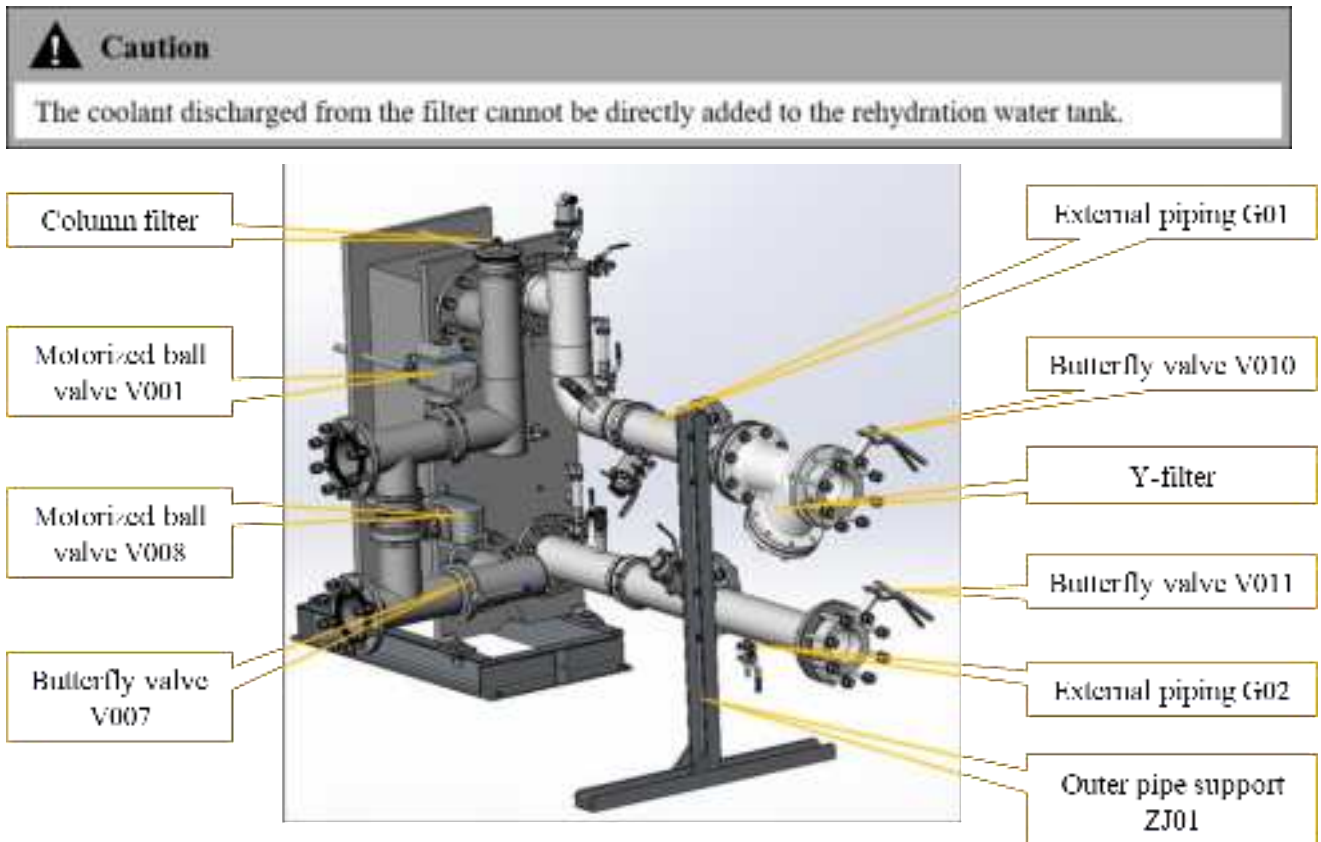

Figure 9.1 Location of butterfly valves and pipeline filters for pipeline maintenance.
- b. Referring to Figure 9.1, close the maintenance butterfly valves in the system, open the drain ball valve below the pipeline filter component, and drain the local liquid in the pipeline.